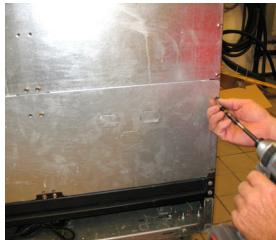

Figure 1
4. Remove the lower back panel (see Figure 1).